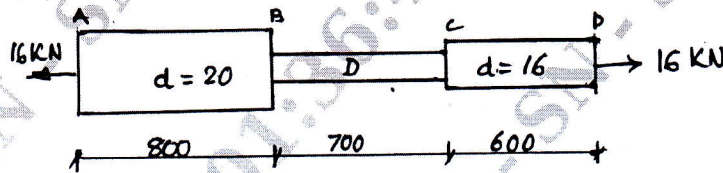

Fig Q2(c)
- c. Calculate the dia 'D' of the bar shown Fig Q2(c) if the total elongation of the ABCD is 1.65mm. $E = 2 \times 10^5 \text{ N/mm}^2$, All dimensions in 'mm'